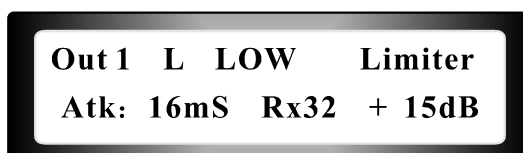

Figure 14
6. Limiter Setting (As shown in Figure 14) : Each output channel is with one Limiter . The attack time of Limiter is adjusted to 0.3mS to 90mS, release time is 2,4,8,16, or 32 × Attack time. Adjust Level area to be +15dBu to -10dBu, adjusting distance to be ±1dBu.